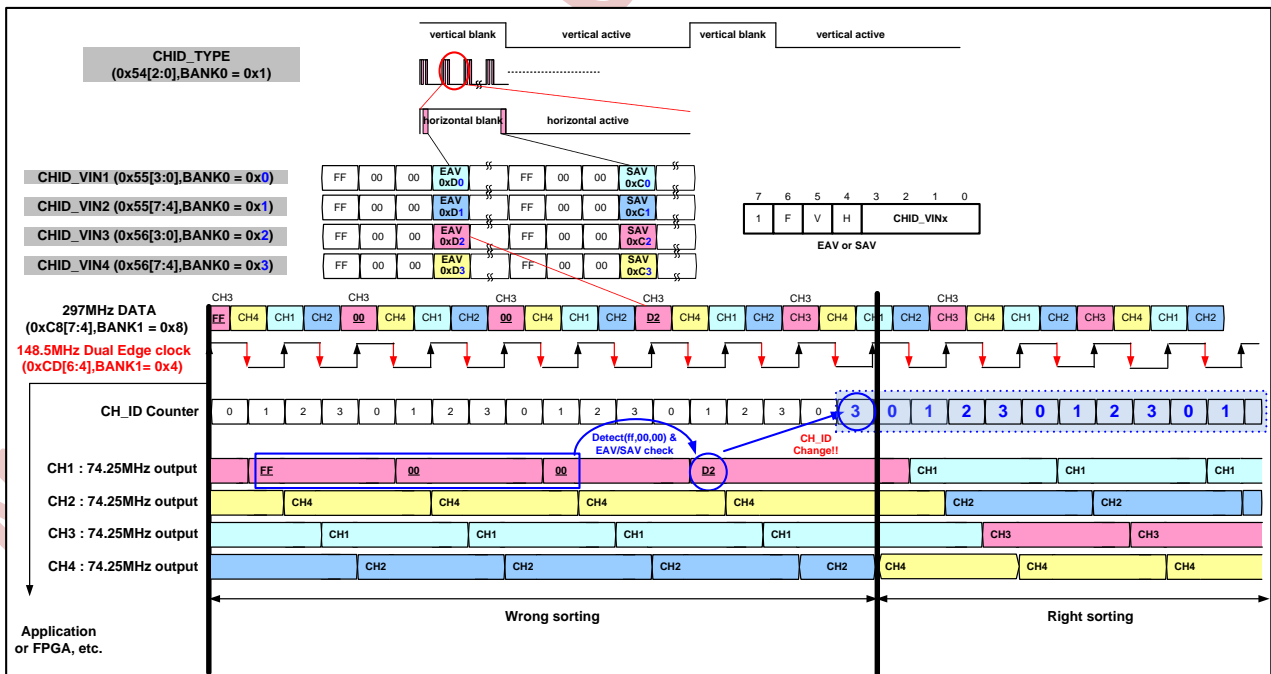

Figure 2.17 NVP6134 Select Channel ID
5. FPGA or equivalent devices which is input 297MHz time multiplexed data output, need to align with same channel data. (74.25MHz 1,2,3,4 channel). Figure2.17. shows how to use Channel ID as a example.
6. CHID\_TYPE(BANK0, 0x54[2:0]=001) mode described in top of Figure2.17.
8. Using 2bit digit, Convert from 297MHz Data to 74.25MHz Data (Wrong sorting part in Figure2.17.) and then Define the 2bit digit ( 0 : Ch1 data, 1 : Ch2 data, 2 : Ch3 data, 3 : Ch4 data).
9. For mapping between separated each channel data and specified counter value, Select channel among separated each channel (1CH selected in Figure2.17.). If selected channel data become Right sorting condition, other 3 channel is sorted automatically.
11. If the EAV/SAV[3:0] is '2', make a counter reset to '3' (Refer to Blue color in Figure2.17.)